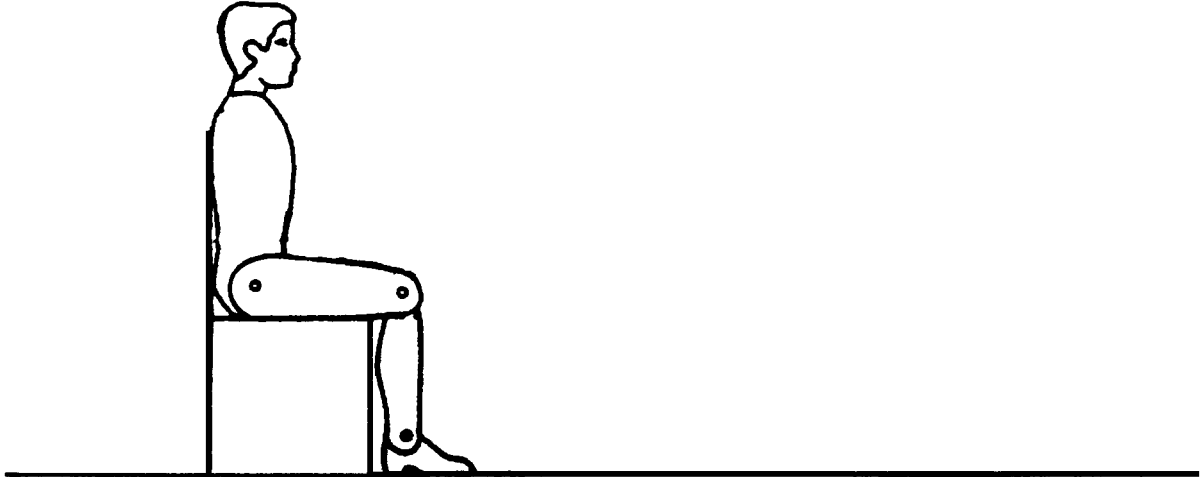

FIG. 6
- (c) (i) Complete Figure 6 by sketching a side view of the student desk in position relative to the seated student. Show the position of the student's arm in your sketch.